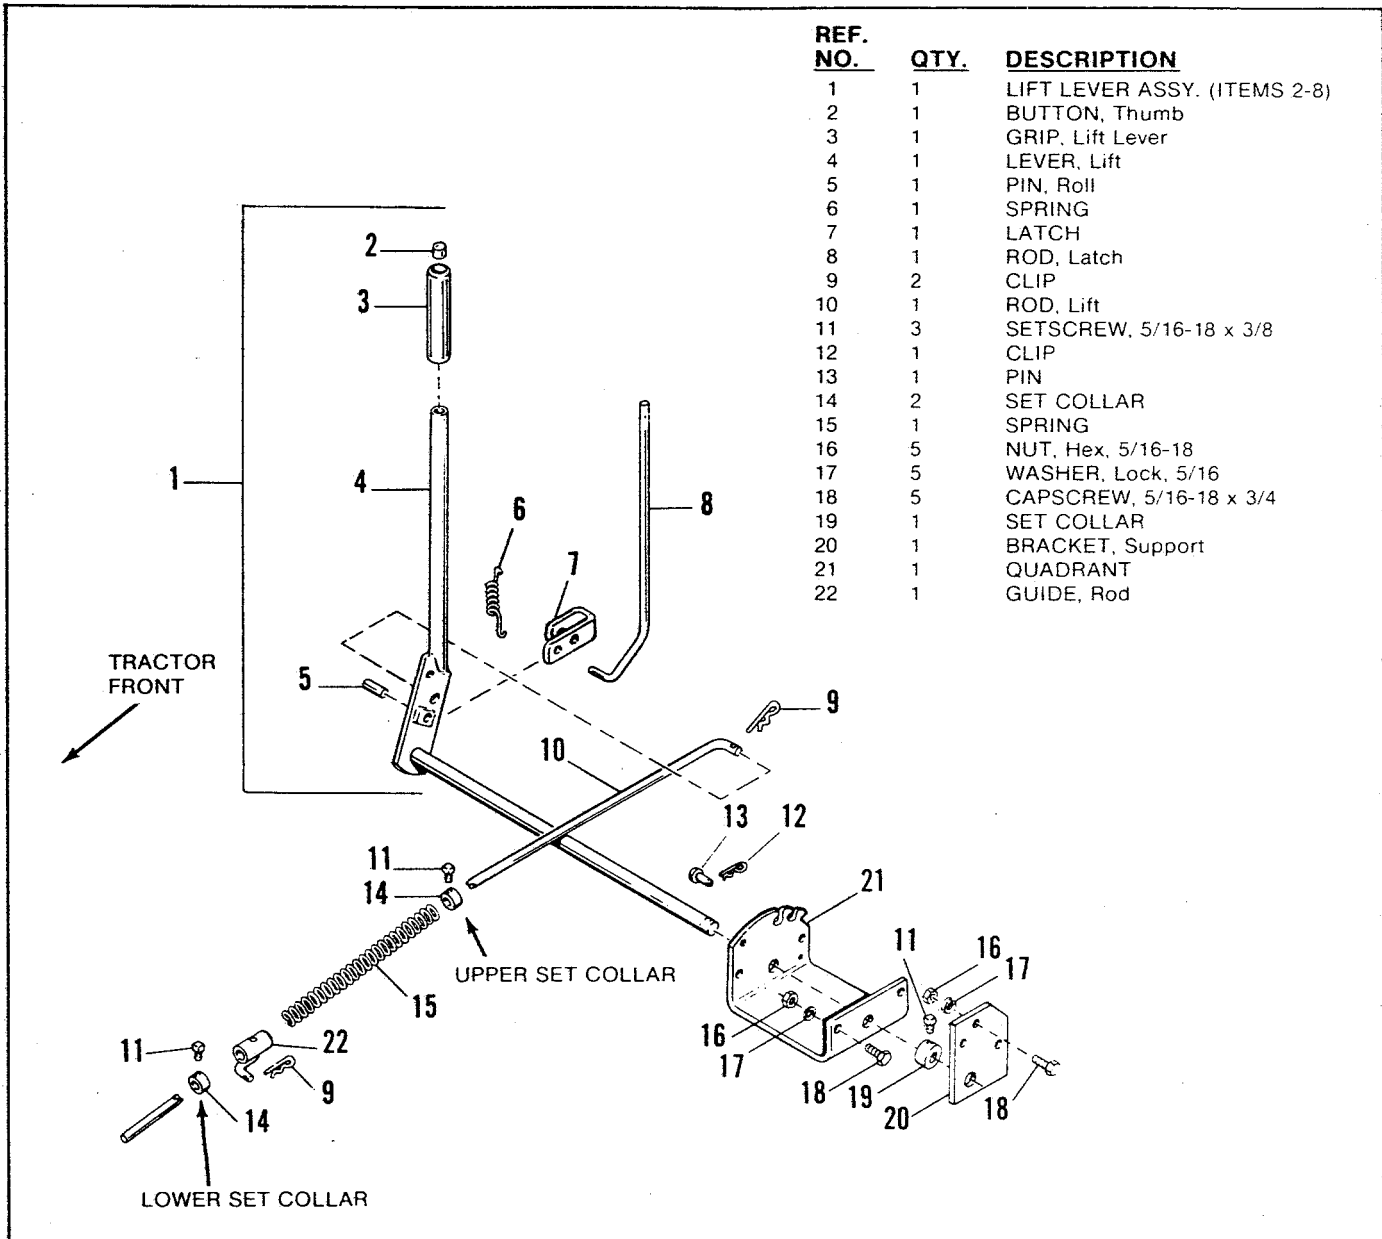
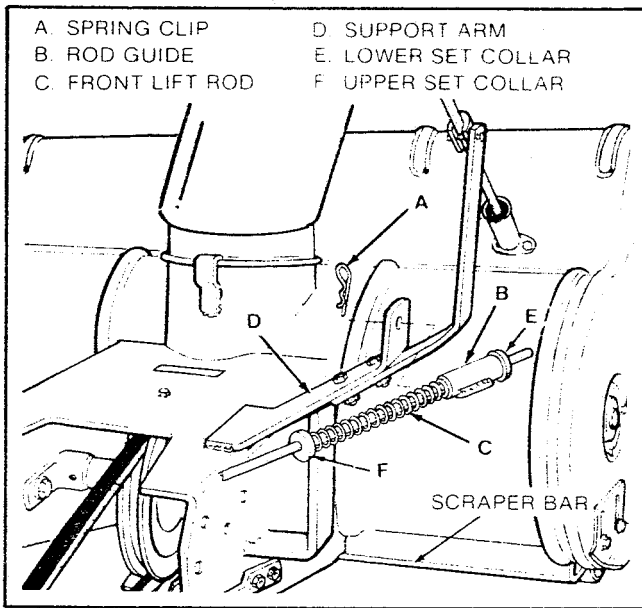
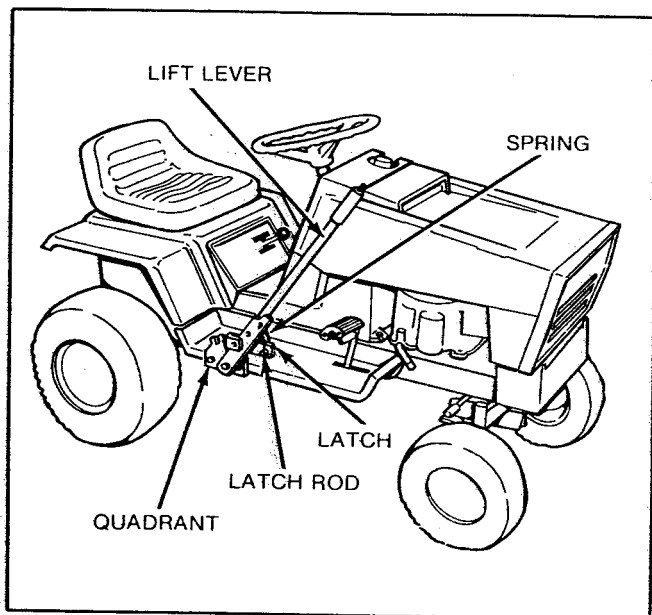
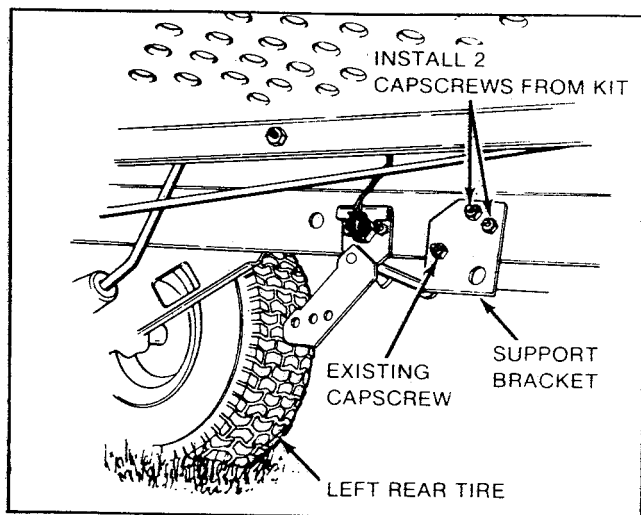

Figure 1. Lift Lever Kit, Exploded View
Figure 5. Attach Lift Rod To Snow Thrower
Figure 2. Lift Lever Kit (Lift Rod Not Shown)
Figure 3. Support Bracket, Installed
In these instructions, "left" and "right" are referred to as seen from operators position on tractor seat. Refer to Figure 1 to identify kit components. Figure 2 shows the lift lever kit installed on tractor. To install the kit, proceed as follows.
1. Install the two set collars (14, Figure 1), rod guide (22), and spring (15) on lift rod.
2. Insert the prong on the rod guide (22) thru the support bracket as shown in Figure 5. Place upper set collar against spring. Tighten both setscrews (14).
1. Fully lower the snow thrower. The latch (7, Figure 1) should be in most forward notch.
2. Check the gap between the rod guide and the lower set collar (Figure 5). The gap should be about 1 inch (25 mm). If not, loosen set screw, move set collar, and retighten screw.
3. Fully raise the snow thrower. The latch (7, Figure 1) should be in rear notch. Check the gap between the scraper bar (Figure 5) and the ground. The gap should be 3-1/2 to 4 inches. If not, fully lower the snow thrower, move the set collar up to increase gap or move set collar down to decrease gap. Fully raise the snow thrower and recheck gap.
1. Remove the set collar (19, Figure 1) and support bracket (20) from the lift lever shaft.
2. Install the support bracket to the inside of the left frame as shown in Figure 3. To install the bracket, remove the nut and lockwasher from the existing capscREW and insert the support bracket on the capscREW. Replace nut and lockwasher finger tight. Install two capscREWS (18, Figure 1) lockwashers (17) and nuts (16) thru frame and remaining two holes. See Figure 3.
3. Place the quadrant (21, Figure 1) and set collar (19) on the shaft of the lift lever (4) as shown in Figure 1. Do not tighten setscrew yet.
Before proceeding with the next step, arrange the following parts on right-hand side of tractor: the lift lever assembly (1, Figure 1), three capscREWS (18), three lockwashers (17), and three nuts (16).
6. After all hardware is in place, tighten all nuts. Tighten the three support bracket capscREWS (Figure 3).
8. Check operation of the lift lever. The latch (7, Figure 1) fits inside the quadrant teeth to hold the lift lever in place. See Figure 2. When the thumb button is pressed, the latch is released and allows the lift lever to be moved to a different position.
9. Attach the lift rod (10) to the lift lever with clip (9).
10. Attach the set collar (22) to the bracket on the snow thrower with clip (9).